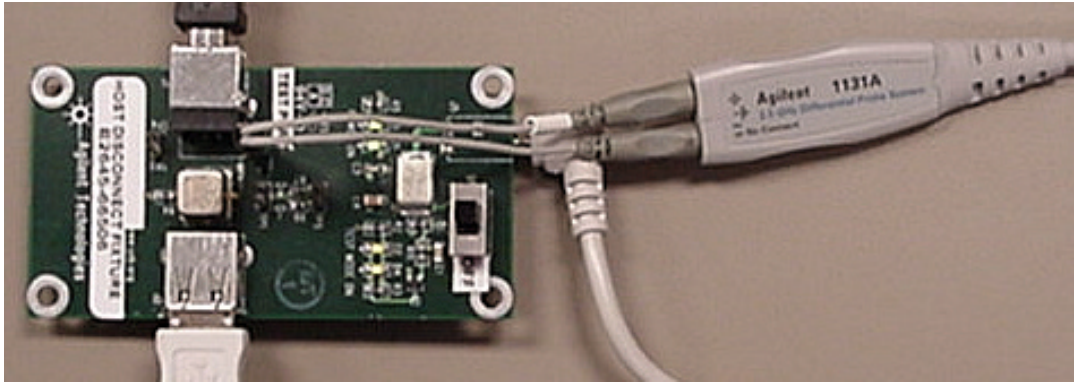

Figure 17: Differential Probe Connection on Host Disconnect Test Fixture
2. Attach the differential probe to TP2 of the test fixture, using the header adapter, as shown in Figure 17